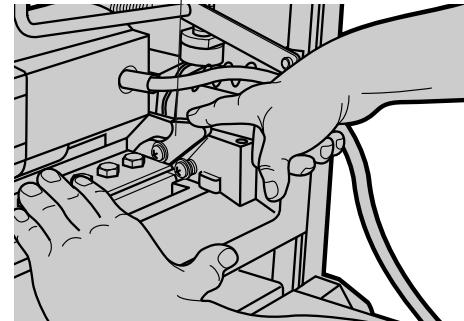

FIG. 18
- 8) Press the cutterhead lock lever (Figure 18) down toward the knife and gently roll the cutterhead backward until the knife can be removed.
- 9) Press the cutterhead lock lever (Figure 18) down and roll the cutterhead until the other knife assembly is visible. Remove this knife following the steps above.
- 5) Remove the knife gauges and rotate the cutterhead back to the position shown in Figure 18. Replace and retighten the six middle bolts. Bolts should be tightened to a torque of 50 in. lbs. (5.7 N-m).
- 6) Press the cutterhead lock lever (Figure 18) down and roll the cutterhead until the other knife assembly is visible. Replace this knife following the steps above.